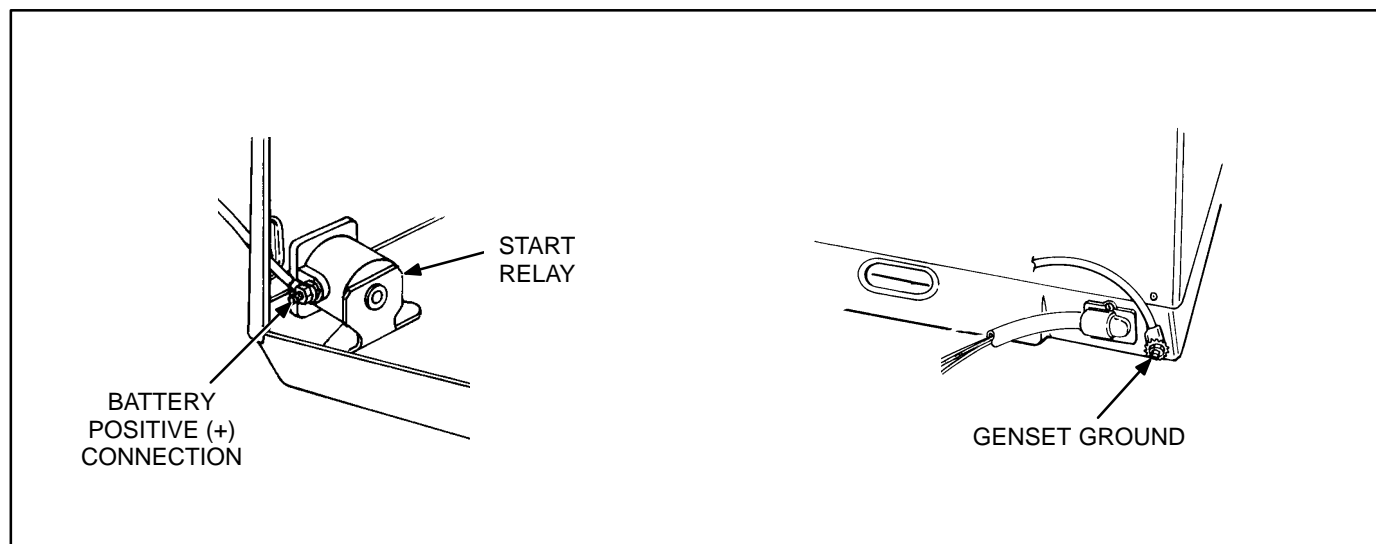

FIGURE 8-11. BATTERY CONNECTIONS
Negative (-) Battery Connection. Connect one end of the negative (-) battery cable to the genset ground. Tighten the ground connection securely (see Figure 8-11).
2. Connect one end of a short, negative (-) battery cable (of the same size as the positive (+) battery cable) to the vehicle frame near the genset. Connect the other end to the genset ground. See Figure 8-11.
Positive (+) Battery Connection. Connect one end of the positive (+) battery cable to the start relay B+ post. Tighten the B+ connection securely (see Figure 8-11).
The genset ground, as shown in Figure 8-11, is also the bonding terminal for grounding the genset to the vehicle frame (ground) when a continuous negative (-) battery cable is used from the battery directly to the genset. Connect an 8 AWG grounding wire from the vehicle frame to the genset ground.